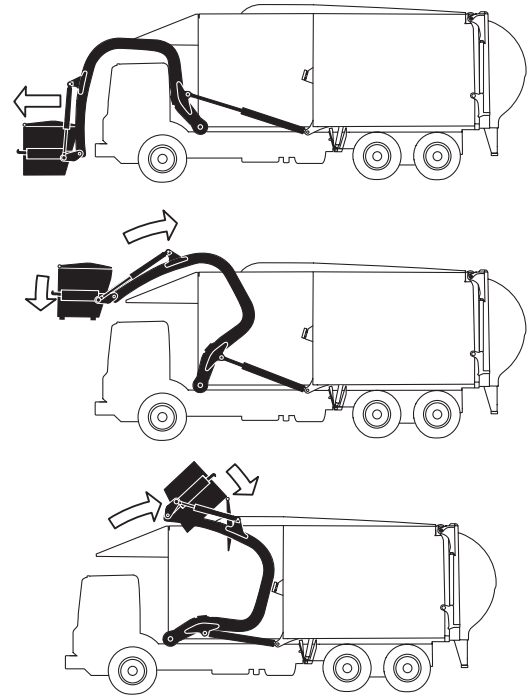

Figure 9
3. Position the vehicle in line with the container, and drive the vehicle forward until the forks are all the way through the container fork pockets (Figure 9).